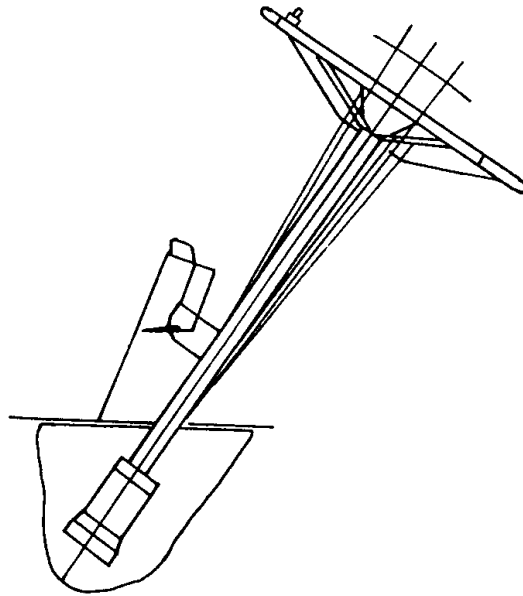

Figure 7-1 Steering gear
**3.1 The steering device** (see Figure 7-1) mainly includes a cycloidal fully hydraulic steering device, steering column and steering wheel. The steering column and the steering wheel can be adjusted back and forth, which can be adjusted
See Figure 7-1.